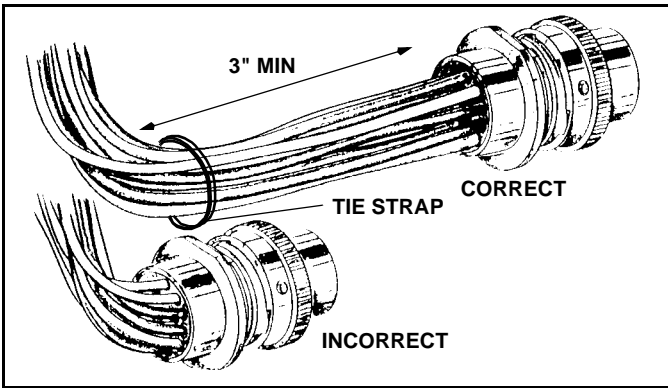

Figure 1-6
21. Fasten the wiring harness with a tie strap behind the plug as shown in Figure 1-6 so that the wiring harness does not make any bend for at least 3" from the plug end.